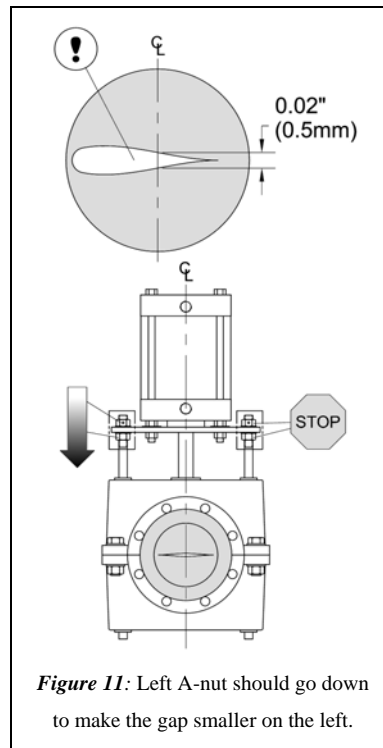

Figure 11: Left A-nut should go down to make the gap smaller on the left.
If the gap appears to be off-center (Figs. 11 & 12), adjustments will have to be done to the A-nuts.
- to make the gap smaller, the A-nut should go DOWN (Fig. 11)